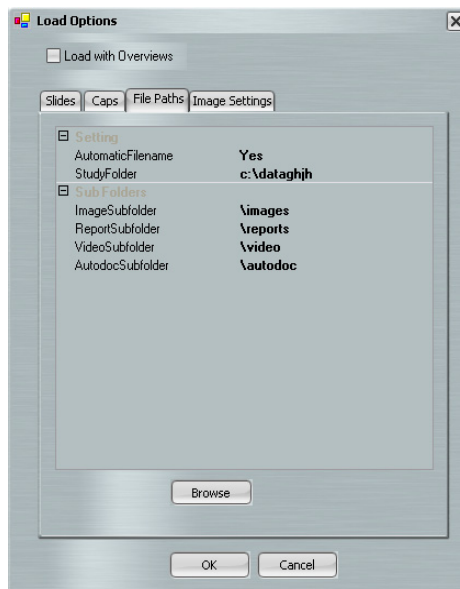

Figure 19 File path options.
1. To enter information about where image files should be saved, click the **File Paths** tab (see Figure 19).